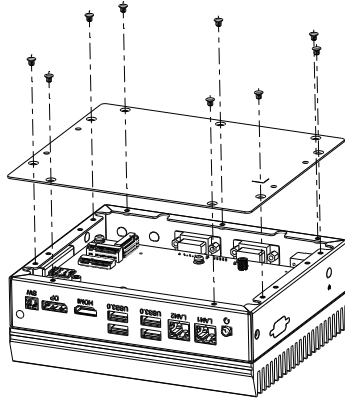

Figure 3-1-1
1. Remove the 9 screws and remove the bottom cover, as shown in Figure 3-1-1.